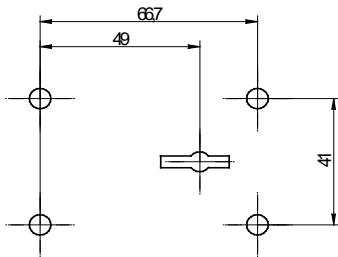

Fig. 4: Fastening hole pattern
- For installation and adjustment of the lock on the door, make sure that the key can be inserted into the lock without having to apply force and without jamming. This can be achieved by mounting the lock according to the following pattern of mounting holes (Fig. 4). For further lock dimensions please refer to the Kaba Mauer Catalogue Sheet. Mounting plate 3118000300 may be used as an alternative.